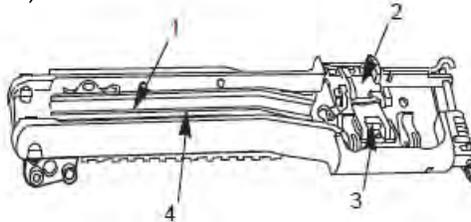

Figure 25. Feed Tray Mechanism.
6. Check feed pawl assembly (figure 25, item 3) and feed lever (Figure 25, Item 1) for burrs, breaks, and wear (rounded). Check for sticking and broken springs. Replace as needed.
7. Check front and rear cartridge retaining pawls (Figure 25,Item 2) for burrs, breaks, wear (rounded) and check springs for broken or kinked coils. Replace as needed (WP 0011).
8. Check feed pawl assembly (Figure 25, Item 3) for burrs or excessive wear (looseness) and springs for broken or kinked coils. Replace as needed (WP 0011).
9. Check for interference between the inner and outer feed pawls (Figure 25, Item 3) when actuated by feed lever (Figure 25, Item 1). If interference exists, replace as needed (WP 0011).